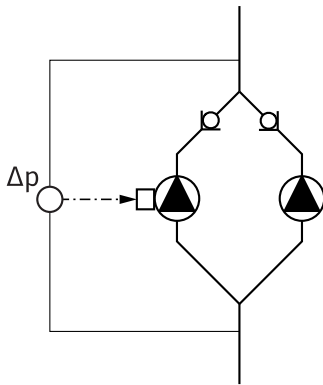

Fig. 13: Example, differential pressure sensor connection
- In the example in Fig. 13, the master pump is the left-hand pump in the direction of flow. Connect the differential pressure sensor to this pump.
The measuring points of the differential pressure sensor of the master pump must be on the suction and pressure side of the double-pump system in the corresponding collector pipe (Fig. 13).